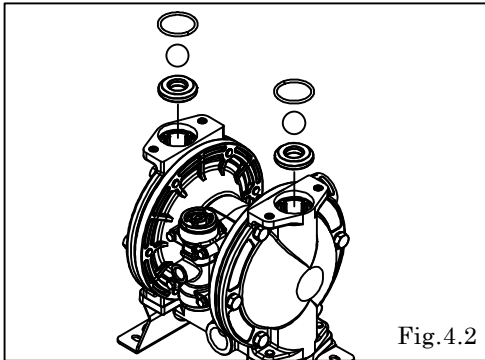

Fig.4.2
- Remove the O ring, ball, valve seat. [Fig.4.2]